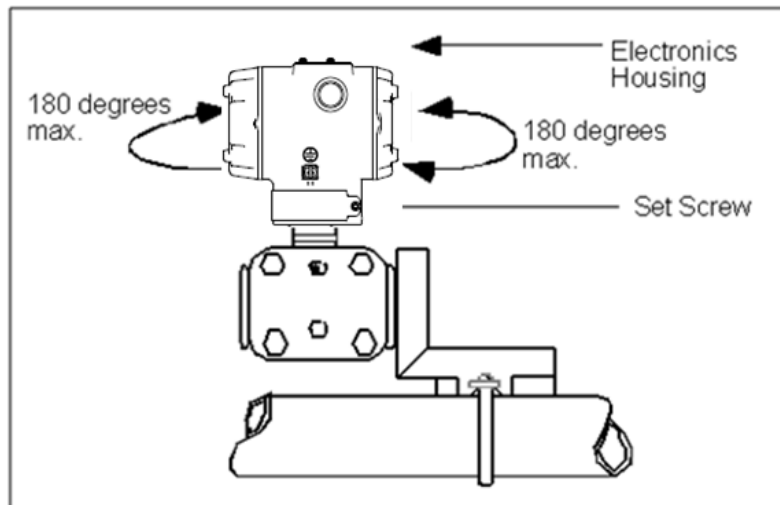

Figure 48 – ST 700 Basic Transmitter - Rotating the Electronics Housing
Once the transmitter is mounted, the electronics housing can be rotated to the desired position. See Figure 48 for details.
7. Loosen the set screw on the outside neck of the transmitter one (1) full turn.
8. Rotate the Electronics housing a maximum of 180° left or right from the center to the position you require, and tighten the set screw using a 4mm metric socket head wrench. See the following example and Figure 48.